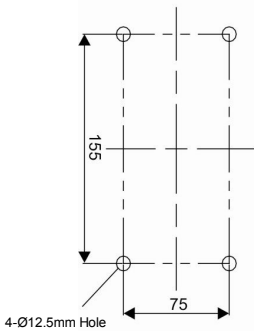

FIG. 19
- D-1.** If you want to install the speed dome on the concrete wall, you need to make 12.5mm diameter 4 holes by drill like FIG. 19. (Depth 37mm)